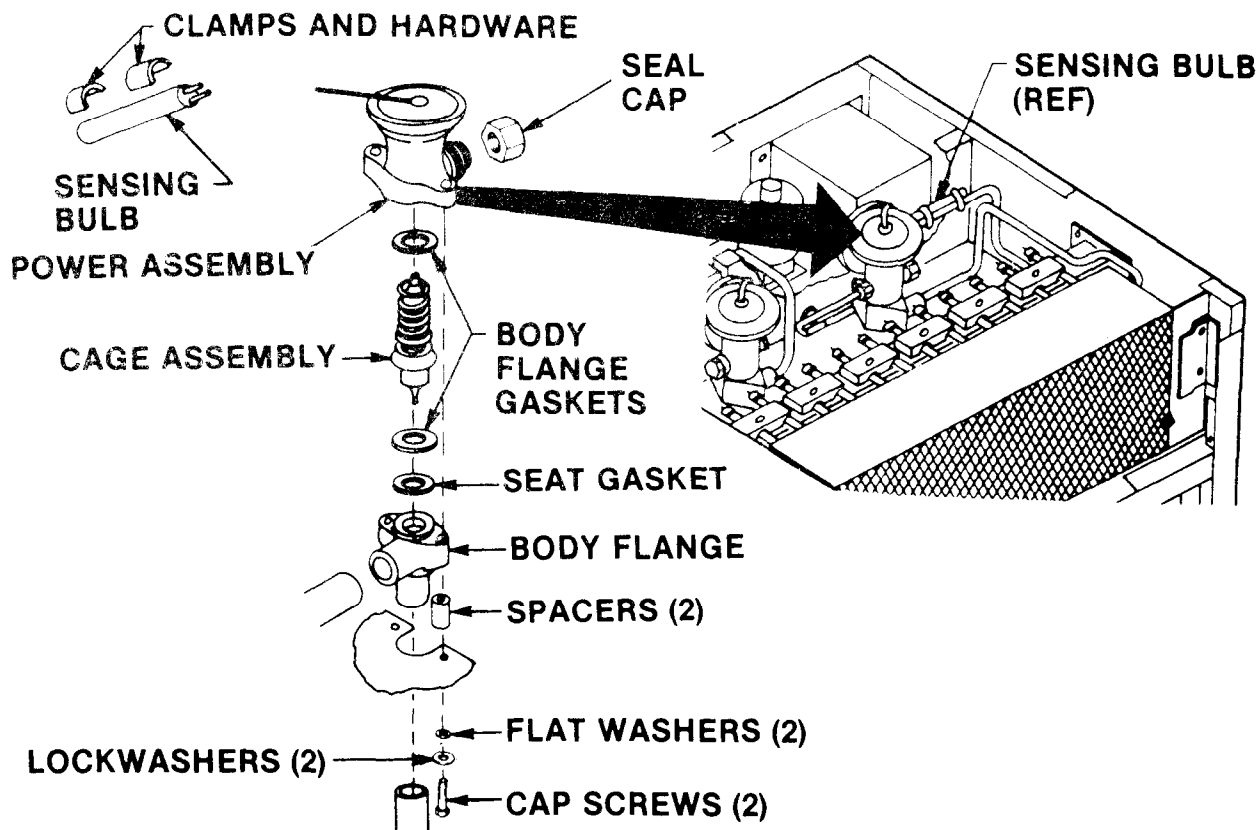

Figure 5-17. Liquid Quench Expansion Valve
(1) If valve body flange was removed, purge the system with nitrogen and braze the two tubing joints. (See para 5-7 and 5-8.)
(2) See figure 5-17 for valve component arrangement.
(3) Place cap screws, lockwashers, flat washers, and spacers through bracket and valve body flange.
(4) Be sure that valve components are properly assembled and aligned. Secure power assembly to body flange.
(5) Insert sensing bulb into its mounting loop clamps in its original position, and tighten the screws and nuts. Be sure sensing bulb is installed in the original position and is making good metal-to-metal contact with suction line.
(6) Reinstall insulation tubing that was removed from sensing bulb and liquid quench expansion valve connections. Secure insulation tubing with tape, item 11, Appendix E.
(7) Replace the dehydrator. (See para 5-13.)
(8) Leak test all newly connected joints and those in the repaired area. (See para 5-9.)
(9) Evacuate and charge the refrigerant system. (See para 5-10 and 5-11.)